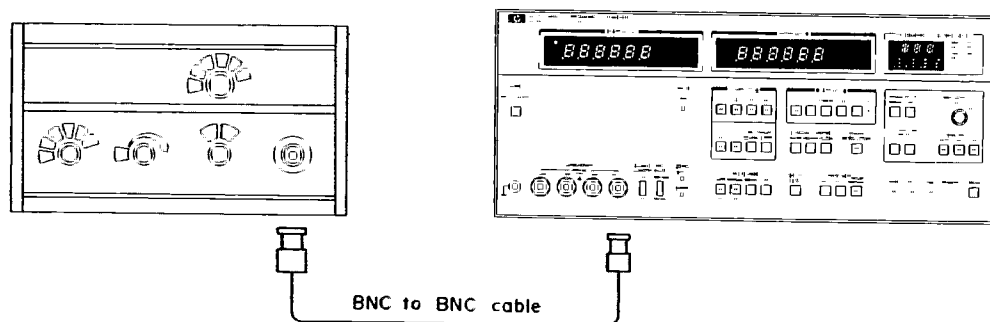

Figure 5-9. Test Signal Level Check Accuracy Adjustment Setup.
4. Adjust potentiometer A3R1 so that FREQUENCY/TEST SIG LEVEL display output is 1.01 (V) within  $\pm 1$  count.
5. Connect RF voltmeter input to 4275A UNKNOWN H COUP terminal with a BNC to BNC connector as shown in Figure 5-9.